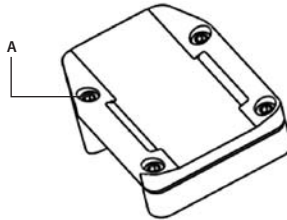

FIGURE 4-6. REMOTE CONTROL UNIT. BATTERY INSTALLATION
1. Using a screwdriver, unscrew the four screws (A, Figure 4-6) that affix the cover to the bottom of the unit. Remove the cover.
3. Replace the cover and retighten the screws (A).